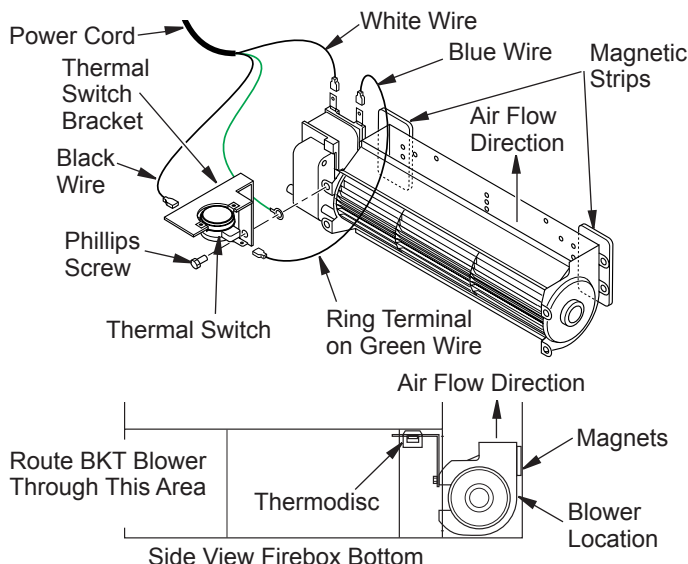

Figure 28 - Blower Model BKT
1. Place the green ground wire with ring terminal between the bottom hole on the thermal switch bracket and the top ear hole on the blower assembly. Insert the Phillips screw into all three pieces and tighten securely (see Figure 28).
3. Place the blower against the lower rear wall of the firebox outer wrapper with the exhaust port directed upward and the thermodisc positioned up near the fireplace bottom. The thermodisc must be oriented near the fireplace bottom as shown in Figure 28 in order to sense temperature and properly operate. The blower will be held in position against the back wall by the magnets incorporated onto the blower housing (see Figure 28).